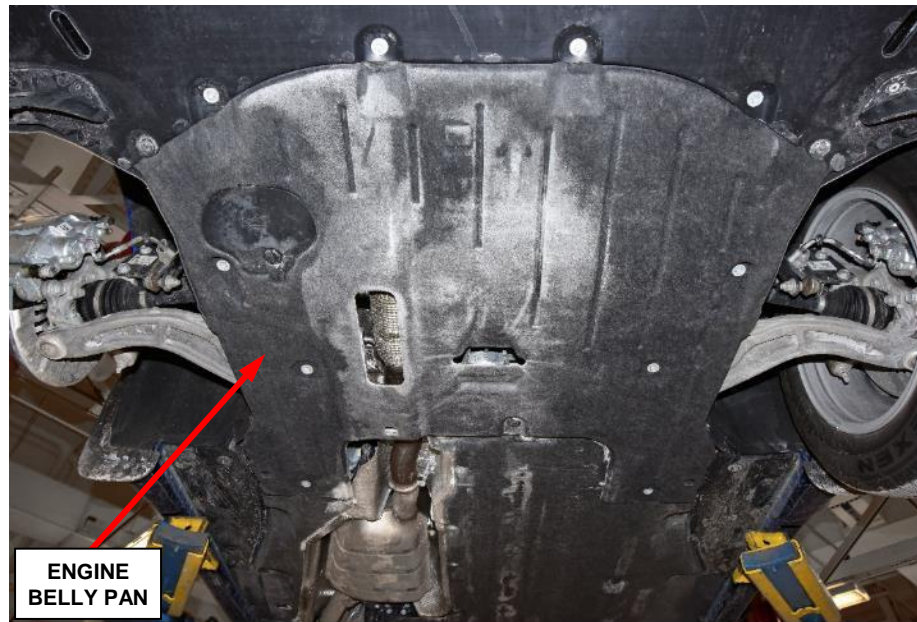

Figure 3 – Engine Belly Pan
1. Remove the engine belly pan (Figure 3).